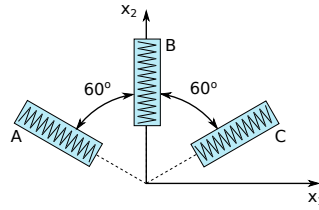

Figure 1: Strain gage rosette for problem 1.
A strain gage rosette (see Figure 1) with 3 gages is placed at a point P on a body. One gage (B) is aligned in the x_2 direction with the other two (A and C) aligned 60 degrees on either side of the x_2 direction. The body is then stressed and the strains from the 3 gages are measured to be ϵ_A , ϵ_B , and ϵ_C .